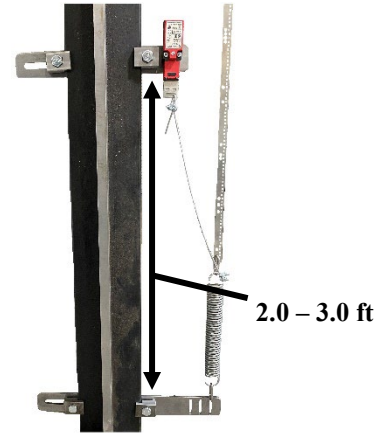

Figure 18: Tape Break Switch Assembly
12. Connect the supplied wire rope, from the pull tab key to the top of the tension spring using the supplied wire clamp. Leave some slack to allow key to be pulled. See Figure 18